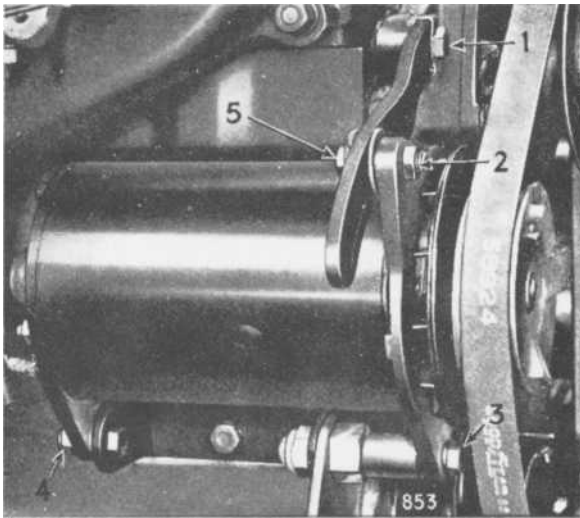

Fig. 36. Generator.
It is important that the belt is sufficiently tight to drive the generator, but not too tight as would put undue load on the generator and water pump bearings. The correct tension is achieved when the belt can be pressed inwards $\frac{1}{2}$ "— $\frac{3}{4}$ " on the longest run, i.e., from the dynamo pulley to the crankshaft pulley. **It is essential after adjustment has been made to securely tighten the attachment nuts and bolts (2), (3), (4) and (5), Fig. 36.**